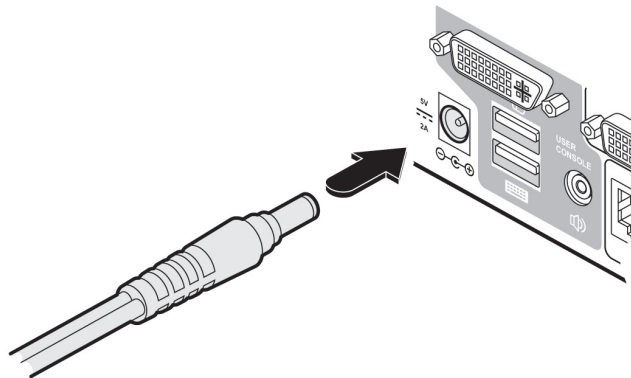

Figure 3-11. Connecting the power adapter.
1. Attach the output lead from the power adapter to the 5V socket on the rear panel of the unit. See Figure 3-11.